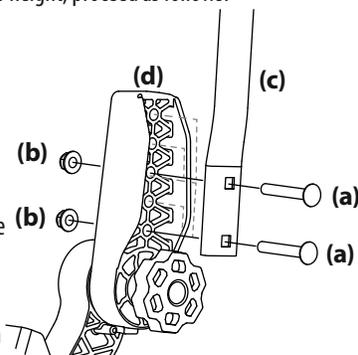

Figure 8
1. Remove the two carriage screws (a) and two flange lock nuts (b) that secure the lapbar drive control lever (c) to the upper handle adjuster (d). See Figure 8.
2. Move the lapbar drive control lever into one of the three available heights and secure in place with the carriage screws and flange lock nuts. See Figure 8.